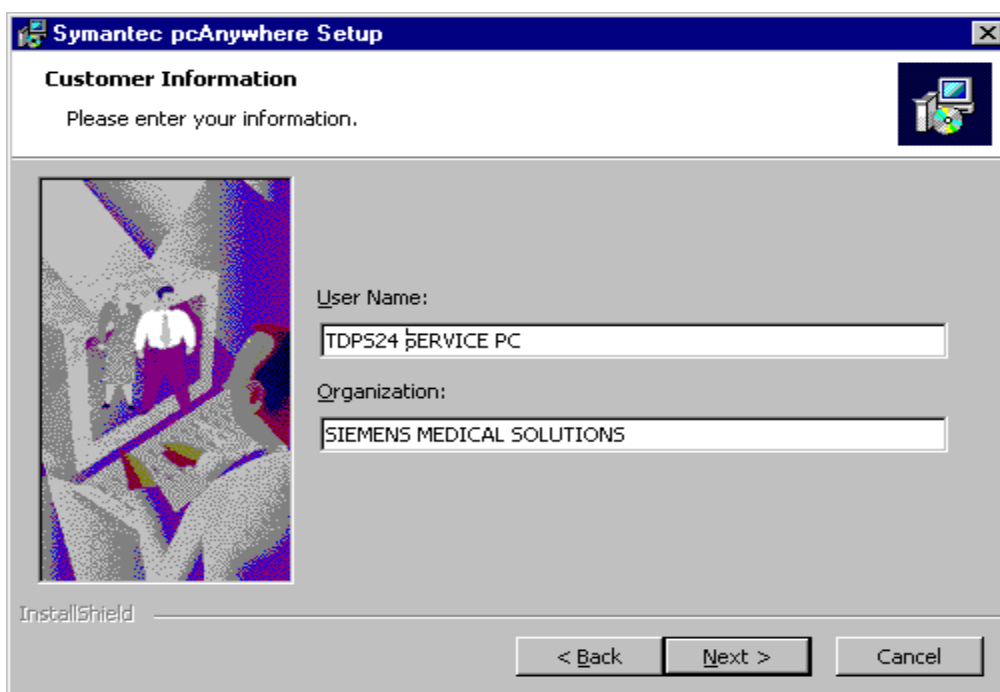

Fig. 18
- Window "Customer Information" (Fig. 18) is opened.